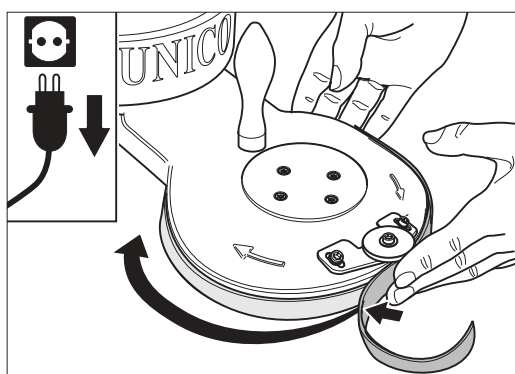

Fig. 8: Install the Velcro strip carefully to ensure properly sealing.
- 3 Fasten the Velcro strip by one end of the adhesive strip to the attachment and then place it all the way around the attachment (Fig. 8).